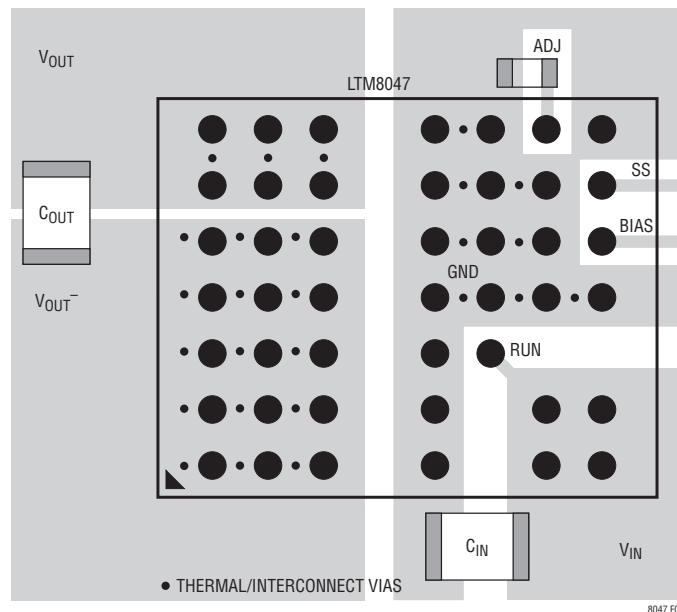

Figure 2. Layout Showing Suggested External Components, Planes and Thermal Vias
Most of the headaches associated with PCB layout have been alleviated or even eliminated by the high level of integration of the LTM8047. The LTM8047 is nevertheless a switching power supply, and care must be taken to minimize electrical noise to ensure proper operation. Even with the high level of integration, you may fail to achieve specified operation with a haphazard or poor layout. See Figure 2 for a suggested layout. Ensure that the grounding and heat sinking are acceptable.
6. Use vias to connect the GND copper area to the board's internal ground planes. Liberally distribute these GND vias to provide both a good ground connection and thermal path to the internal planes of the printed circuit board. Pay attention to the location and density of the thermal vias in Figure 2. The LTM8047 can benefit from the heat sinking afforded by vias that connect to internal GND planes at these locations, due to their proximity to internal power handling components. The optimum